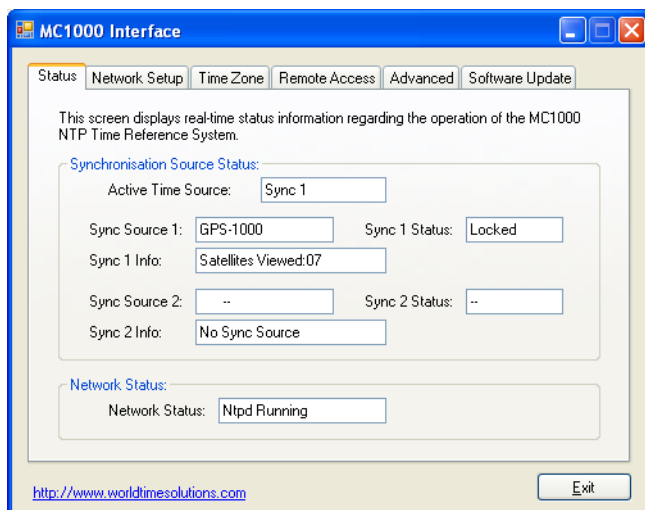
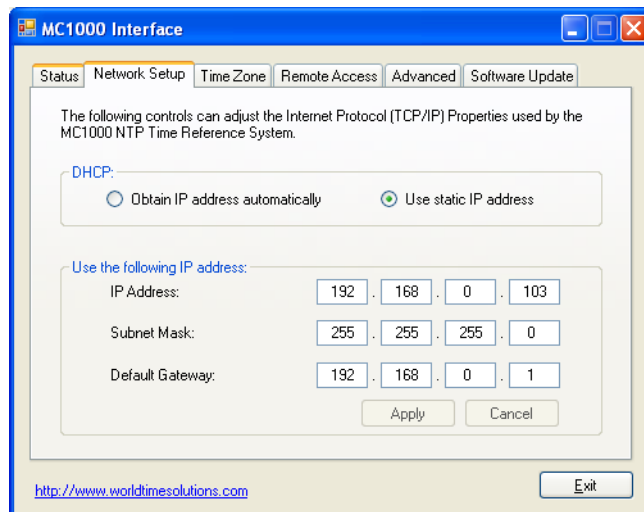
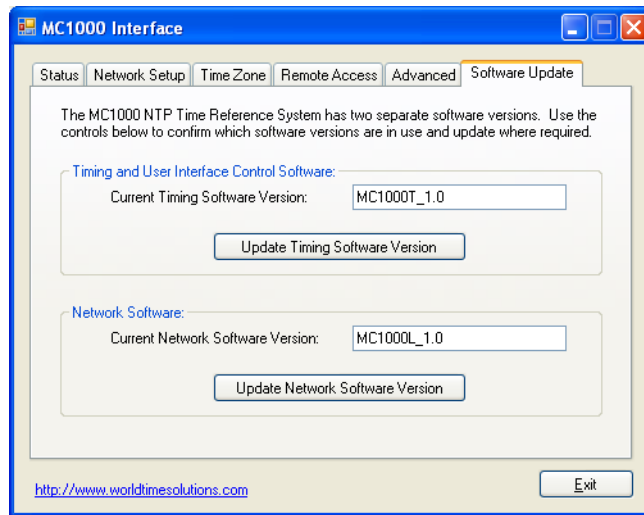
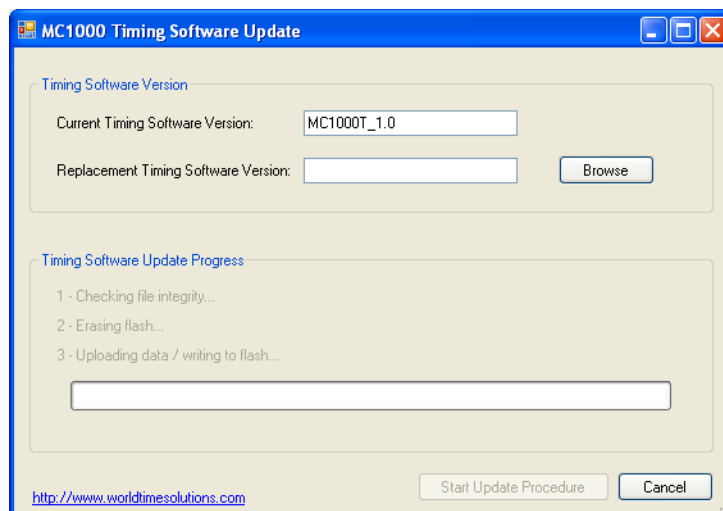

Figure 5.3 - MC1000 Interface application - Status tab
Figure 5.4 - MC1000 Interface application - Network Setup tab
Figure 7.1 - MC1000 Interface application - Software Update tab
Figure 7.2 - MC1000 Timing Software Update window
Initially, the status tab is displayed (*see figure 5.3 below*). Click on any of the other tab titles near the top of the window to access other tabs (*as shown in figures 5.4 - 5.6*). An additional tab (*not shown*) is provided to access advanced settings (*see section 6*). The software update tab is shown in Figure 7.1 (*see section 7*).
- In the main window of the MC1000 Interface software application, click on the 'Software Update' tab (*see figure 7.1 below*).
- In the section labelled 'Timing and User Interface Control Software', click on the 'Update Timing Software Version' button (*see figure 7.1 below*). The 'Timing Software Update' window will appear (*figure 7.2*).
- In the main window of the MC1000 Interface software application, click on the 'Software Update' tab (*see previous page figure 7.1*).